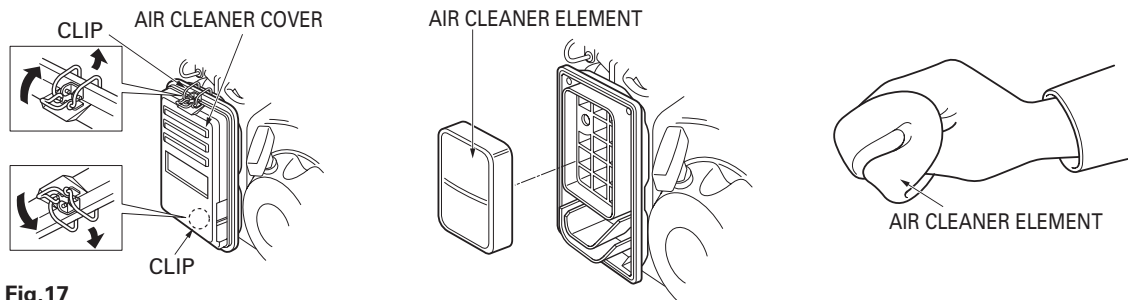

Fig.17
1. Unsnap the air cleaner cover clips, remove the air cleaner cover, and remove the element as shown in Fig.17.
3. Soak the element in clean engine oil and squeeze out the excess oil as shown in Fig.17. The engine will smoke during initial start-up if too much oil is left in the element.